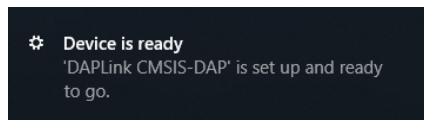

Figure 4. Windows device ready notification
- iii. Finally, Windows should give a notification that the device is ready, as shown in Figure 4.